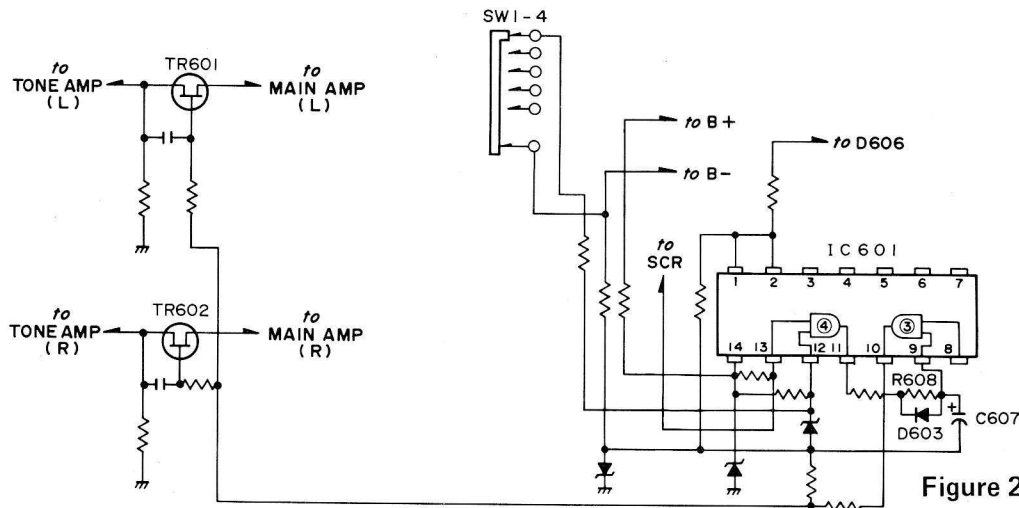

Figure 2
2. Changing the selector switch position (Figure 2)